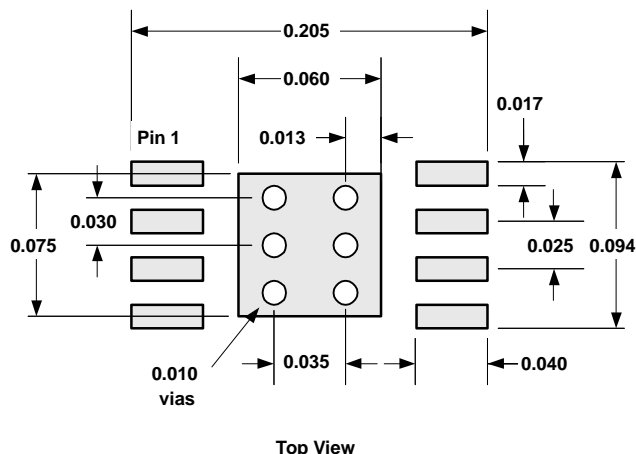

Figure 56. DGN PowerPAD PCB Etch and Via Pattern
1. PCB with a top side etch pattern as shown in Figure 56. There should be etch for the leads as well as etch for the thermal pad.